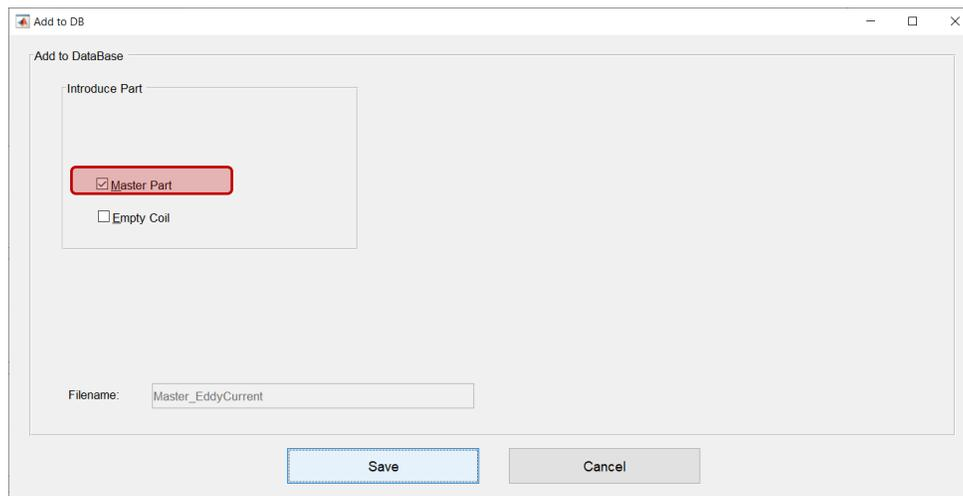

Figure 17. **Add to DB** Menu for Introducing the **Master Part** to the Database.
- Press the **D** button to access the **Add to DB** menu (Figure 17).